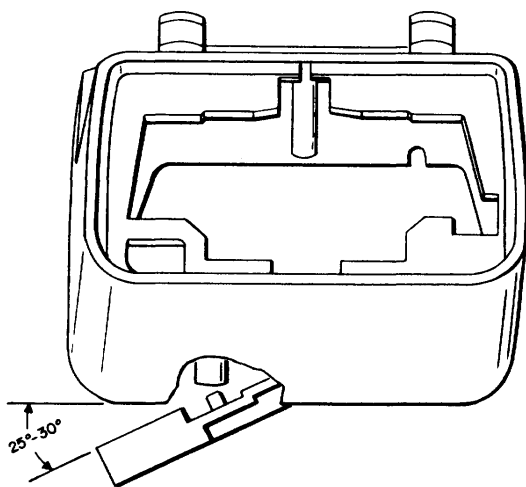

Figure 9. Housing Removal.
- (d) Lift the rear of the housing to an angle of approximately 25 or 30 degrees (about 2 inches) (Figure 9).